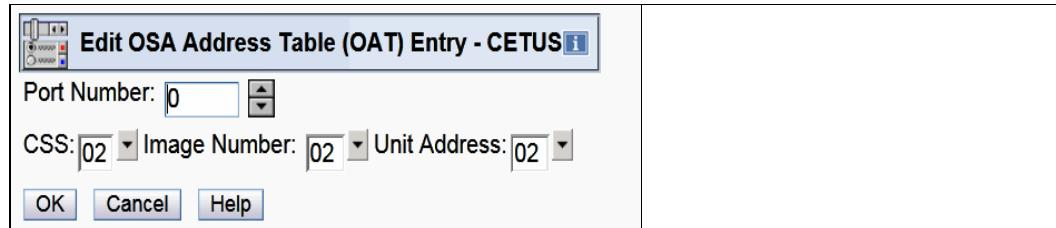

Figure 6-11 OSA/SF on the HMC: Edit SNA entry window
7. Select **Edit as SNA Entry**, and the OSA Address Table (OAT) Entry window shown in Figure 6-11 opens. Select the appropriate SNA entry and click **OK**.